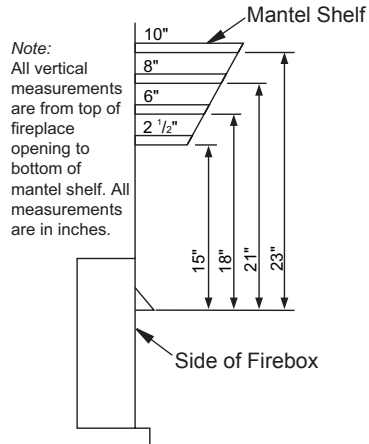

Figure 10 - Minimum Mantel Clearances for Built-In Installation
C. For mantel clearances, see Figure 10 on page 12.
Built-in installation of this fireplace involves installing fireplace into a framed-in enclosure. This makes the front of fireplace flush with wall. An optional trim kit accessory is available (see *Accessories*, page 40). Trim will extend past sides of fireplace approximately 1/2". This will cover the rough edges of the wall opening. If installing a built-in mantel above the fireplace, you must follow the clearances shown in Figure 10, page 12. Follow the instructions below to install the fireplace in this manner.
NOTICE: If your installation does not meet the minimum clearances shown in Figure 10, you must do one of the following: